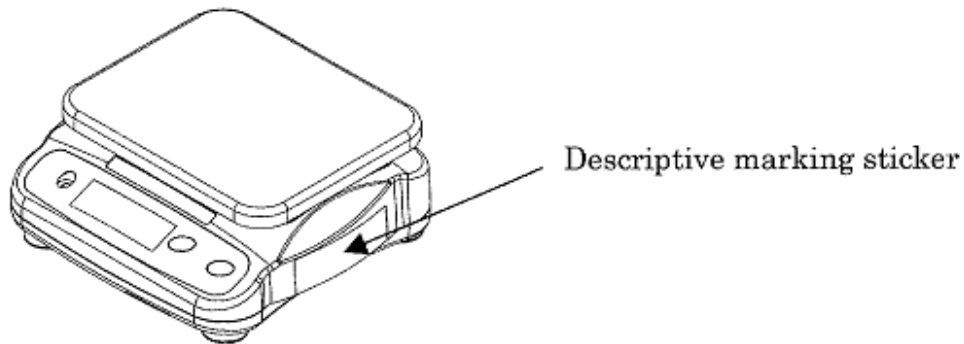

Figure 3 Location of data plate
The data plate, green M sticker and the verification mark are mounted on the right hand side of the instrument (see Figure 3).
- Figure 3 Location of data plate